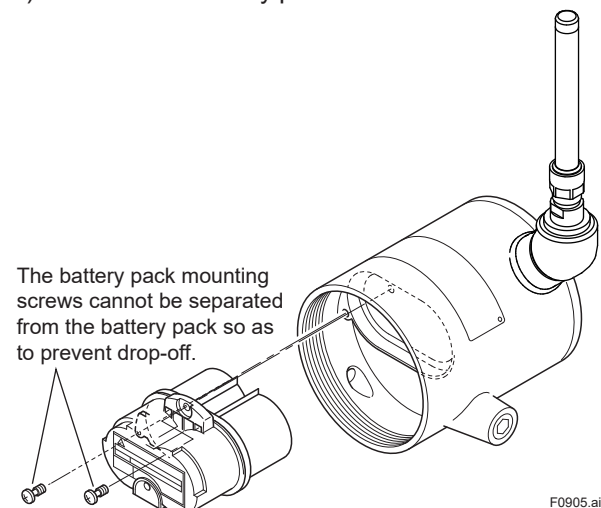

Figure 9.5 Removing the Battery Pack
- 2) Loosen the two battery pack mounting screws (see Figure 9.5).